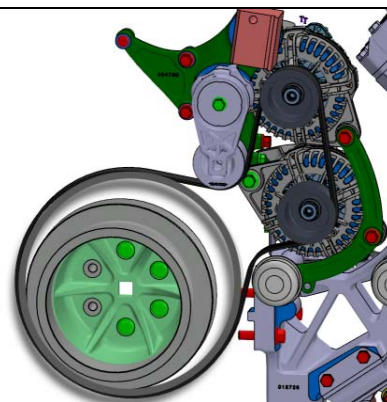

FIGURE 30
39. Reinstall the alternator belt. To do so, rotate the automatic tensioner using a $\frac{1}{2}$ square drive breaker bar and install the belt as shown on FIGURE 30.